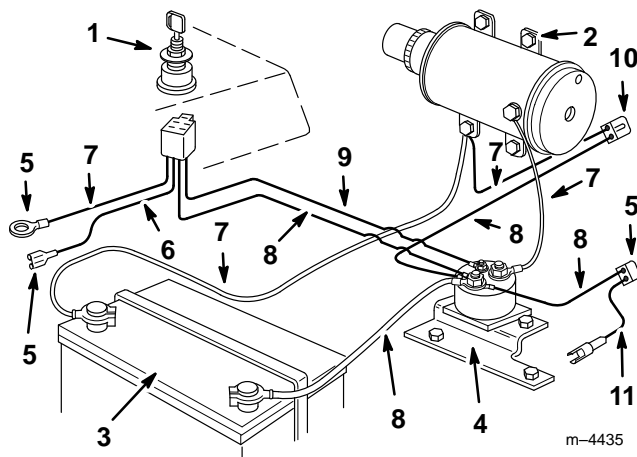

Figure 8
- Install the wire assembly connecting the starter motor to the center terminal of the solenoid (Fig. 8).
17. Install the new wire harness on the ignition switch as illustrated in Figures 8 and 13.
21. Connect the orange wire of the wire harness to the small terminal on the solenoid with an internal tooth lockwasher and #10 nut (Fig. 8).